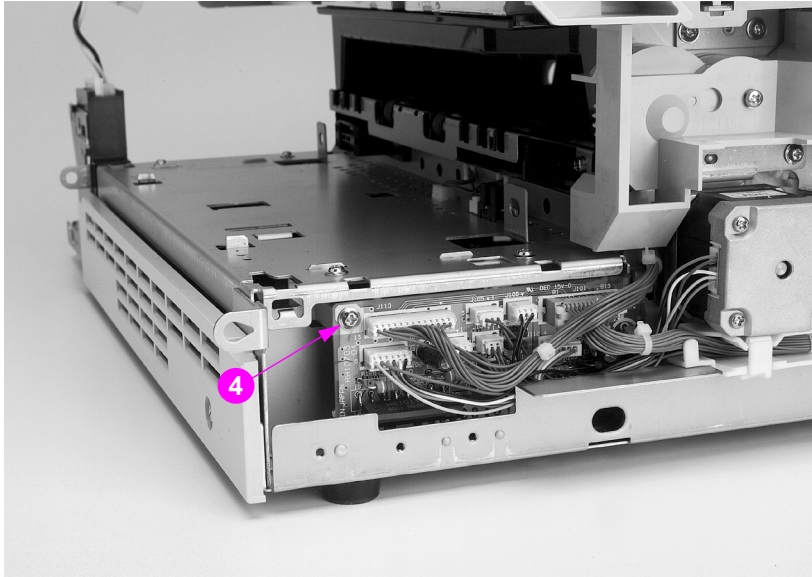

Figure 6-46 Paper feed PCB removal and replacement (3 of 3)
- 9 Remove the eight cables from their connectors on the paper feed PCB shown in Figure 6-46.
- 10 Remove the screw from the rear of the paper feed PCB (callout 4, Figure 6-46).